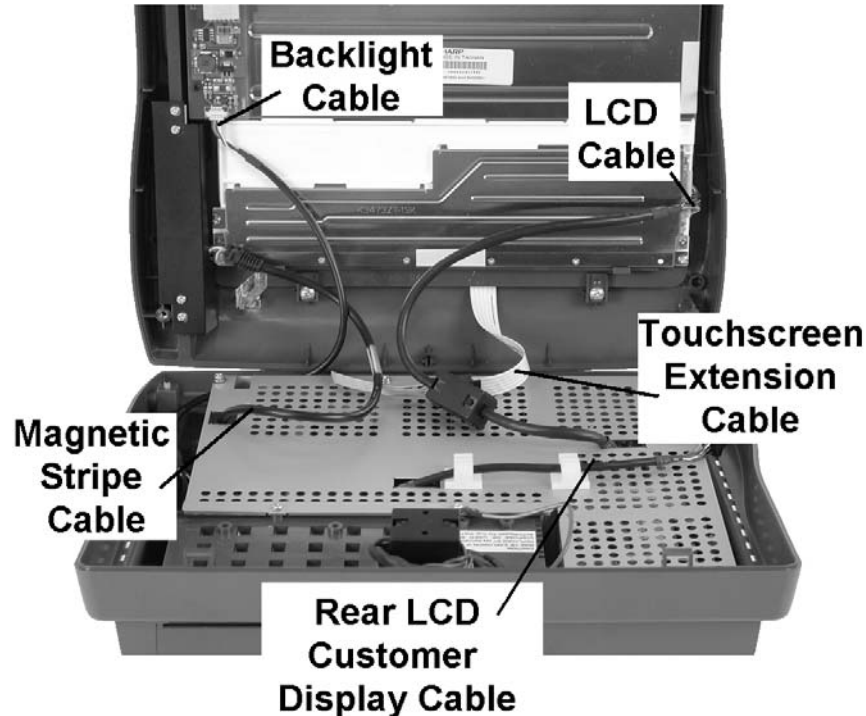

Figure 3-2: Removing Cables from the Top Cover
7. Remove the remaining cables between the top cover and the base. Refer to Figure 3-2.